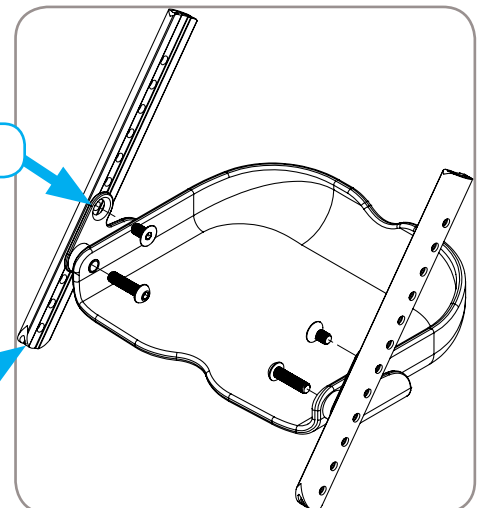

Figure 19
2. Install longer extensions as shown in Figure 19. For the next leg drop position beyond what was achievable with shorter extensions, install flat head bolts through 7th hole from top of footbed extensions.